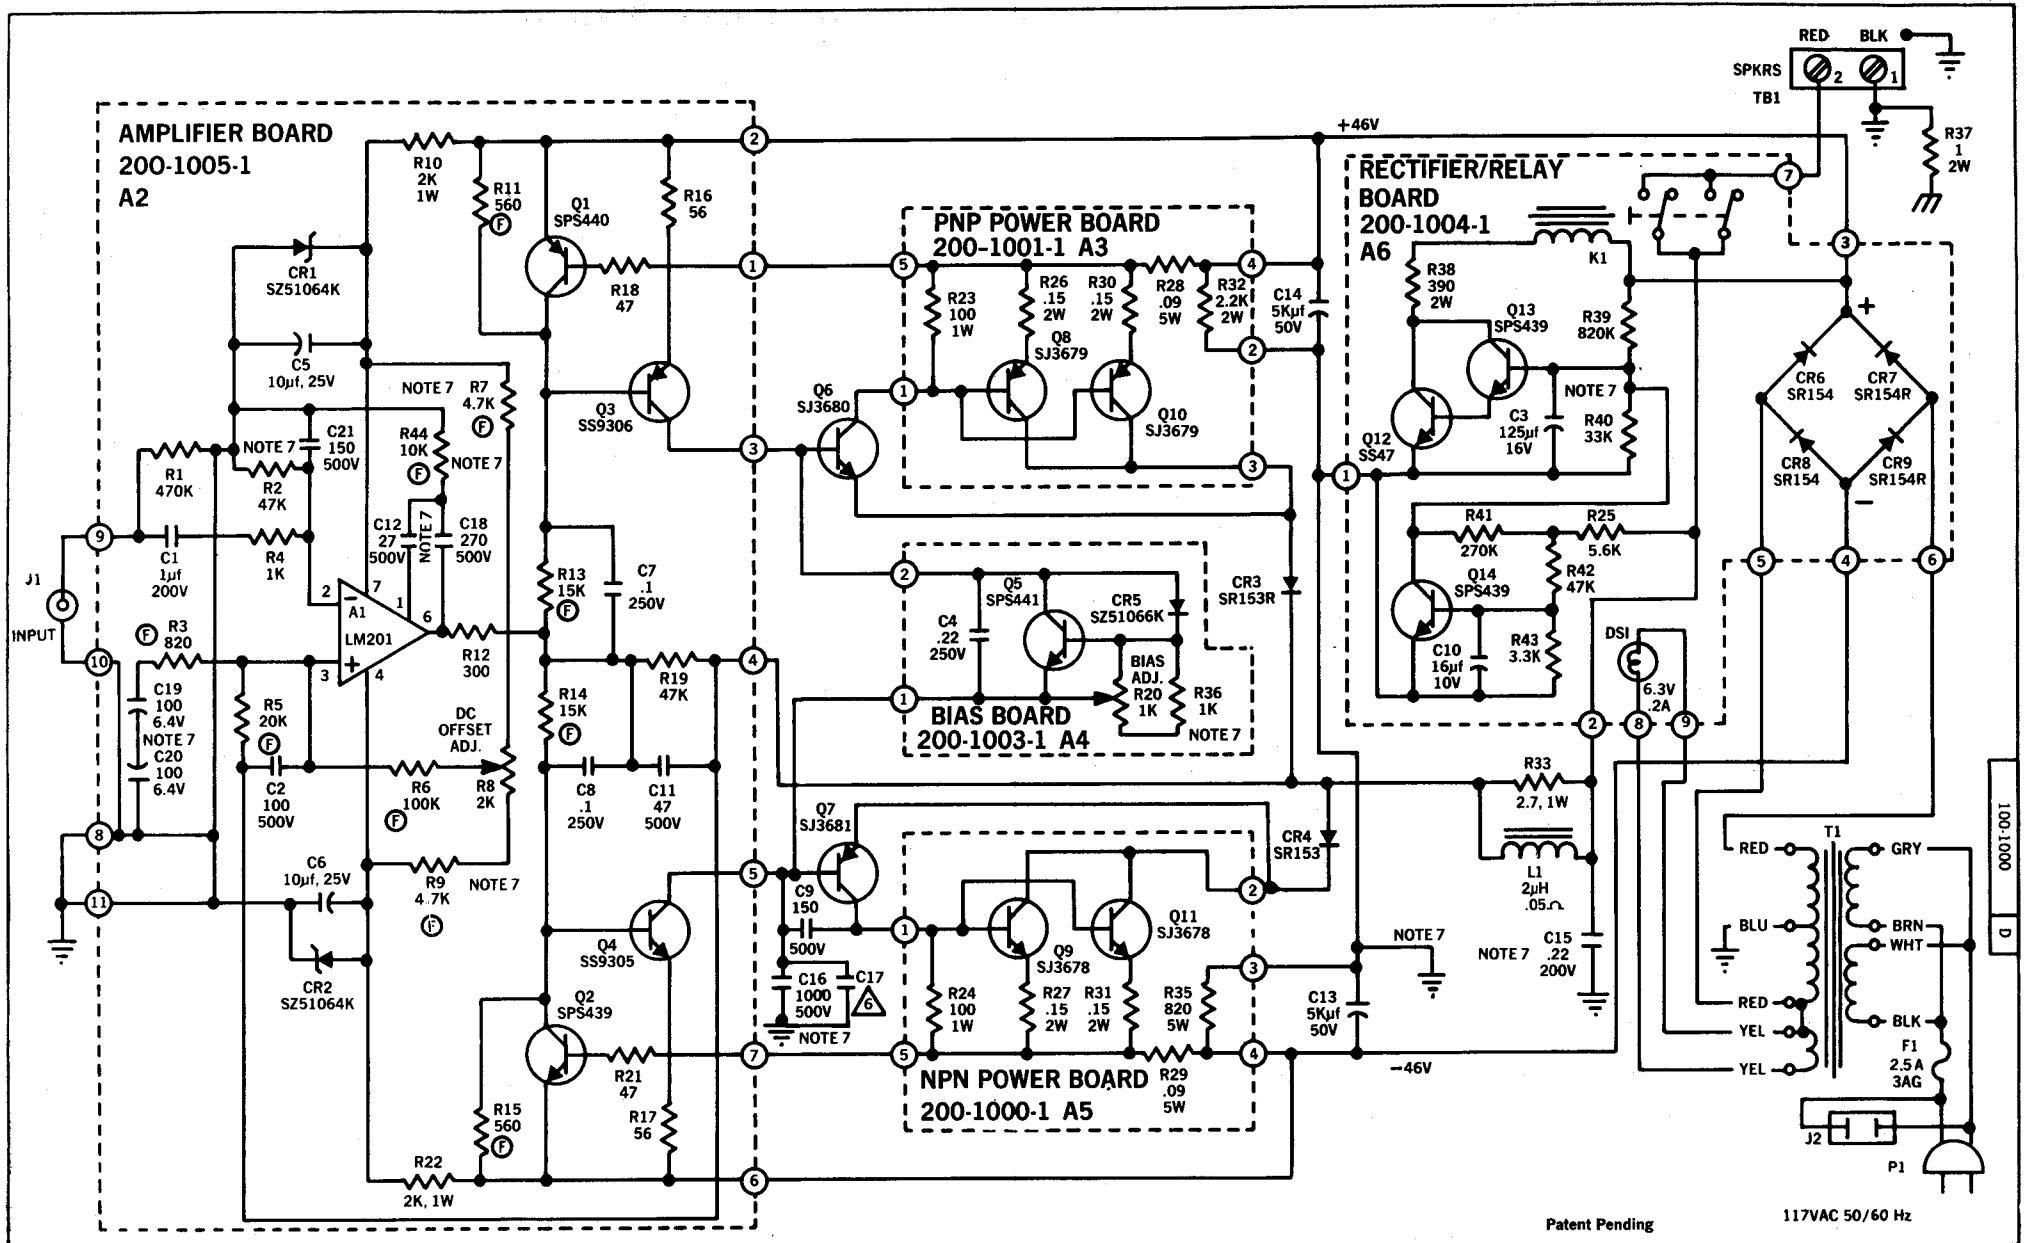

Figure 14. Marantz Model 16 Power Amplifier, Schematic Diagram.
1. Insert change in following places: Figure 2, page 3; Figure 5, page 7; and Figure 14, page 21. Capacitor C8 was 0.1  $\mu$ f 250 VDC, is 0.022  $\mu$ f 100 VDC per E.C.N. 1097 and Marantz service bulletins 69-12/16-1 and 69-16/16-3.
6. On Figure 14, page 21, add capacitor C23, 300 pF, 500 V across R44, 10K.
E.C.N. no. 1097 (item 1)
8. Resistor R37 is 1.2 ohms. The callouts for this value should be corrected in the following places: Figure 1, page 2; Figure 14, page 21.